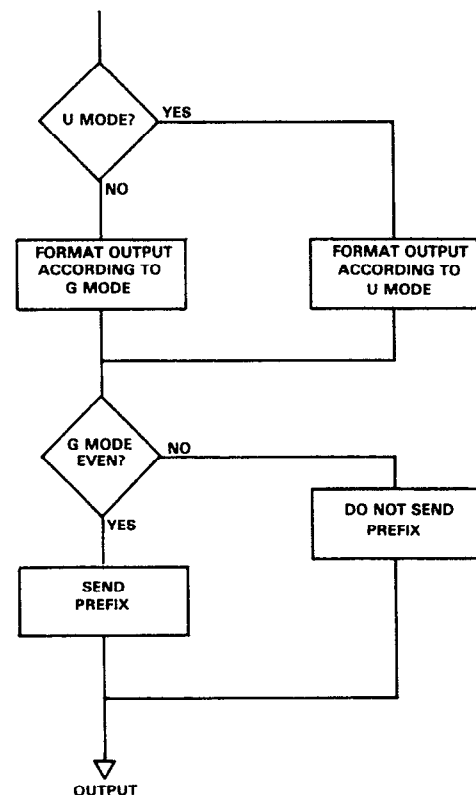

Figure 3-6. U and G Mode Sequence
U0—Sending U0 command outputs the present channel number. The present channel number can be sent with or without a prefix depending on the present prefix mode (G). Refer to the flowchart in Figure 3-6 for the sequence of sending the U and G modes. Refer to paragraph 3.5.8 step 7 for information concerning the prefix modes and their formats.
U1—Sending the U1 command outputs all the channel numbers. All the channel numbers can be sent with or without a prefix depending on the present prefix mode (G). Refer to the flowchart in Figure 3-6 for the sequence of sending the U and G modes. Refer to paragraph 3.5.8 step 7 for information concerning the prefix modes and their formats.
U2—Sending the U2 command outputs the digital I/O port status. The digital I/O port status can be sent with or without a prefix depending on the present prefix mode (G). Refer to flowchart in Figure 3-6 for the sequence of sending the U and G modes. Refer to paragraph 3.5.8 step 7 for information concerning the prefix modes and their formats.
U3—Sending the U3 command outputs the time and date. The time and date can be sent with or without a prefix depending on the present prefix mode (G). Refer to the flowchart in Figure 3-6 for the sequence of sending the U and G modes. Refer to paragraph 3.5.8 step 7 for information concerning the prefix modes and their formats.
U4—Sending the U4 command outputs the status word. The status word can be sent with or without a prefix depending on the present prefix mode (G). Refer to the flowchart in Figure 3-6 for the sequence of sending the U and G modes. Refer to paragraph 3.5.8 step 7 for information concerning the prefix modes and their formats.
U5—Sending the U5 command outputs the channel settle time. The channel settle time can be sent with or without a prefix depending on the present prefix mode (G). Refer to the flowchart in Figure 3-6 for the sequence of sending the U and G modes. Refer to paragraph 3.5.8 step 7 for information concerning the prefix modes and their formats.
U6—Sending the U6 command outputs the alarm time. The alarm time can be sent with or without a prefix depending on the present prefix mode (G). Refer to the flowchart in Figure 3-6 for the sequence of sending the U and G modes. Refer to paragraph 3.5.8 step 7 for information concerning the prefix modes and their formats.
U7—Sending the U7 command outputs the interval time. The interval time can be sent with or without a prefix depending on the present prefix mode (G). Refer to the flowchart in Figure 3-6 for the sequence of sending the U and G modes. Refer to paragraph 3.5.8 step 7 for information concerning the prefix modes and their formats.
U8—Sending the U8 command outputs the programmed first and last channel. The programmed first and last channel can be sent with or without a prefix depending on the present prefix mode (G). Refer to the flowchart in Figure 3-6 for the sequence of sending the U and G modes. Refer to paragraph 3.5.8 step 7 for information concerning the prefix modes and their formats.
U9—Sending the U9 command outputs the previously called buffer location. The buffer location can be sent with or without a prefix depending on the present prefix (G) mode. Refer to the flowchart in Figure 3-6 for the sequence of sending the U and G modes. Refer to paragraph 3.5.8 step 7 for information concerning the prefix modes and their formats.